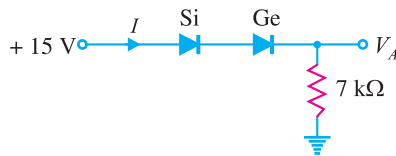

Fig. 6.74
3. Find the voltage V_A and current I in the circuit shown in Fig. 6.74. Use simplified model. [14 V; 2 mA]